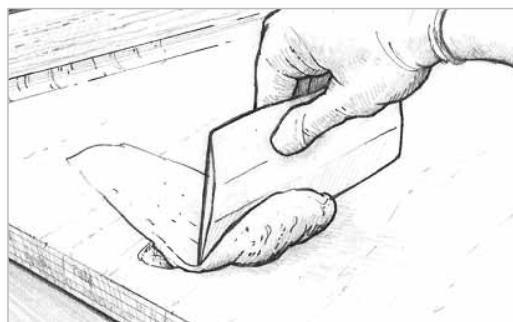

Figure 5-15 Trowel the thickened epoxy fairing compound into the voids and depressions with a plastic spreader.
4. Trowel on the thickened epoxy mixture with a plastic spreader, working it into all voids and depressions. Smooth the mixture to the desired shape, leaving the mixture slightly higher than the surrounding area (*Figure 5-15*). Remove any excess thickened epoxy before it cures. If the voids you are filling are over ½" deep, apply the mixture in several applications or use 206 Slow Hardener or 209 Extra Slow Hardener, depending on ambient temperature.